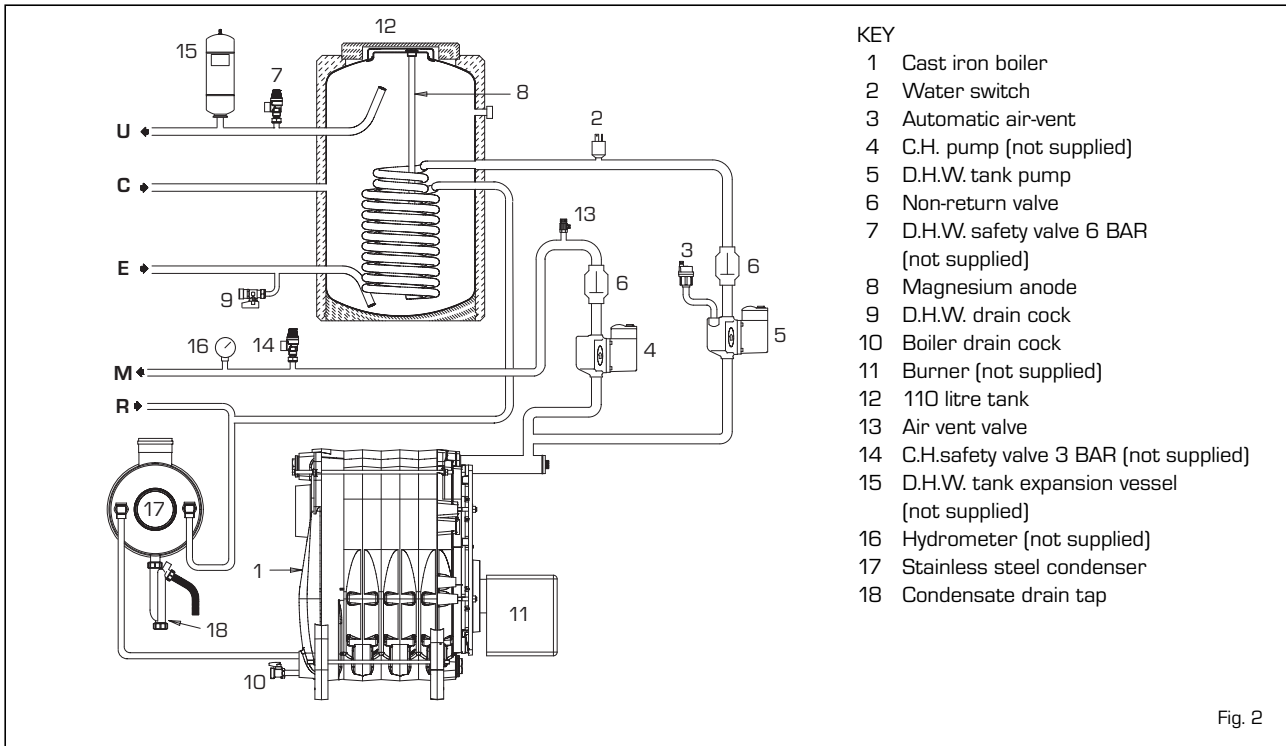

Fig. 2
2.3.1 Accessories (fig. 2)
During the preparation of hot water, the circulating pump installed on the boiler circuit remains in operation until the boiler thermostat probe detects the pre-selected value. Once the boiler thermostat has reached the set point, and the selector has been set to winter operation with the room thermostat on demand, the central heating circuit pump (not supplied) can be actuated. **All residual air in the boiler coils must be bled at the first start-up to ensure proper operation. To facilitate this operation, position the slot of the release screw on the check valve horizontally (6 fig. 2). Once the air has been bled, return the screw to its original position.** Hot water for sanitary use is prepared by the boiler in AISI 316L stainless steel, which is fitted with a special spiral-shaped stainless steel heat exchanger, a magnesium anode to protect the boiler and an inspection flange to simplify checking and cleaning.